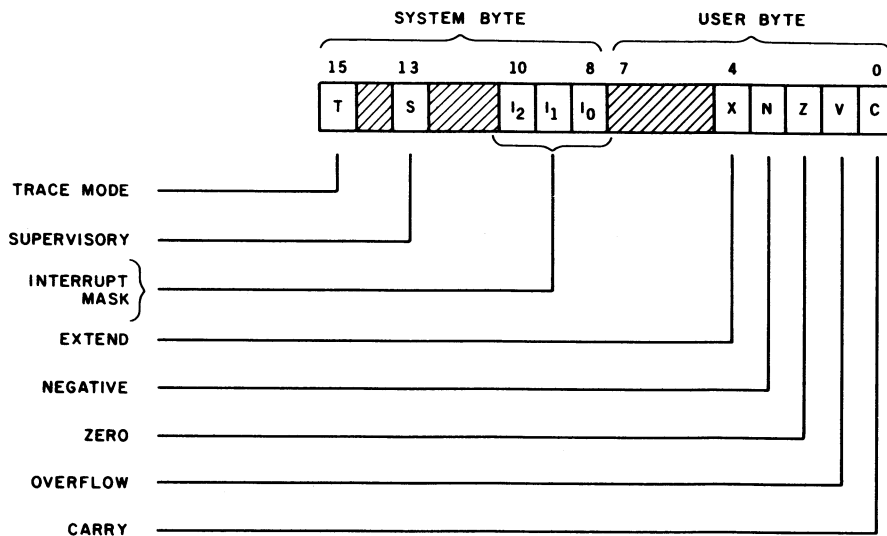

Figure 3: The bits of the MC68000 status register (SR).
Let's detour for a second to discuss the status register of the M68000 (see figure 3). It contains the standard carry (C), overflow (V), zero (Z), and